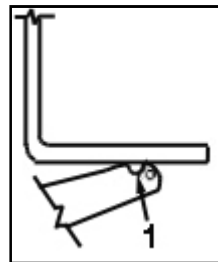

Fig. 6: Using lift arm notch to cradle a support point
- It is preferred to lift the forklift at a point where a structural member will be cradled in the lift arm notch at the end of the lift arm (see Fig. 6).
- If no structural component on the forklift is present at the desired lifting point, weld a steel bar to the forklift to create a structural member (as in Fig. 6).